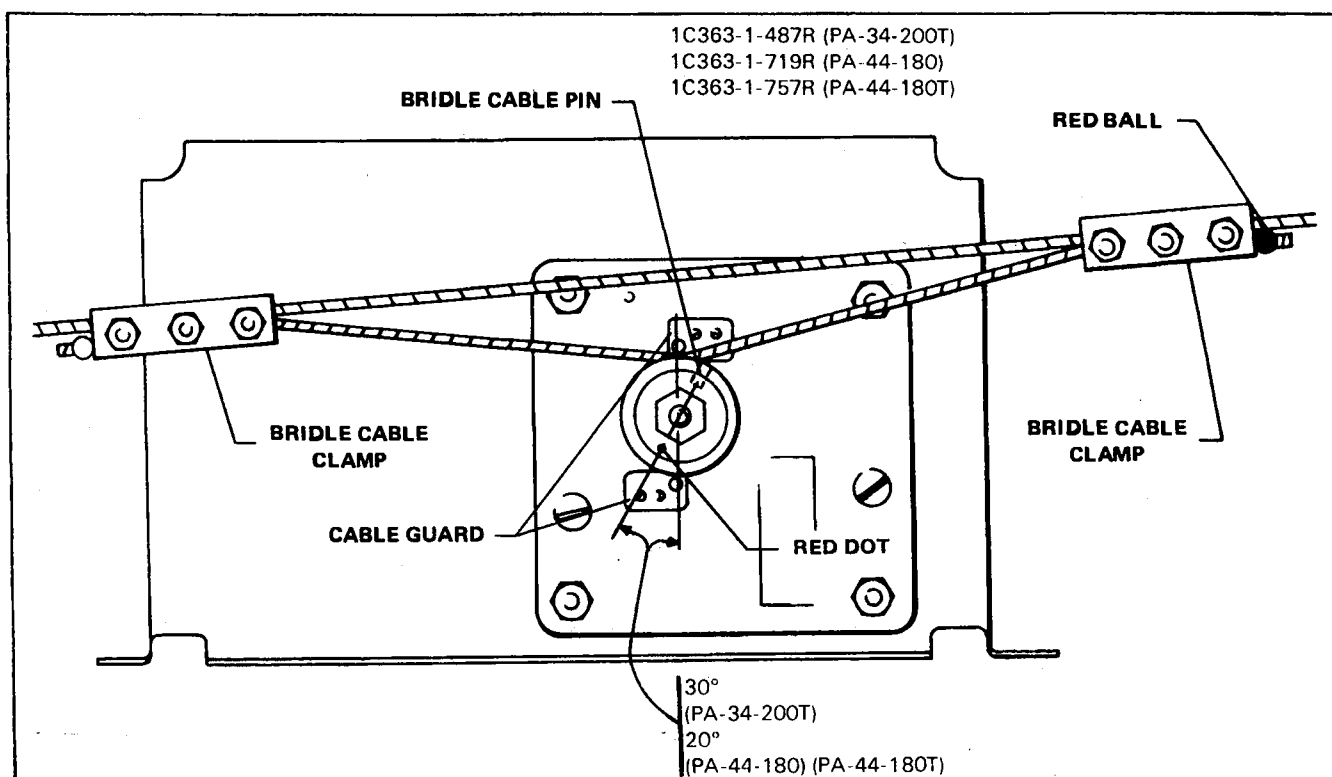

Figure 3-18. Roll Servo Installation, PA-34-200T, PA-44-180 and PA-44-180T (AutoControl III B)
3-18. INSTALLATION OF ROLL SERVO. (PA-34-200T, Serial Nos. 34-7570001 and up; PA-44-180, Serial Nos. 44-7995001 and up; and PA-44-180T, Serial Nos. 44-8107001 and up.) (Refer to Figure 3-18.)
Figure 3-18.) (Should the balance cable not be painted, position the control wheel in neutral and the bridle cable pin installed in the capstan, as shown in Figure 3-18.) Adjust the bridle cable clamps so the bridle cable tension (Y) is equal to the control cable tension $\pm 0 -15\%$ between the bridle cable clamps (X) as shown in Figure 3-13 without increasing the control cable tension from the bridle cable clamps outward. At no time shall the bridle cable tension be greater than the control cable tension between the two bridle cable clamps. Adjusting the bridle cable tension will lower the control cable tension between the two bridle cable clamps. Torque the bridle cable clamp bolts to 55 ± 5 inch-pounds.